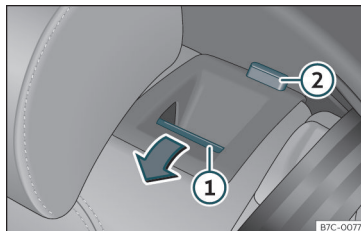

Fig. 128 On the rear seat backrest: release button ①; red mark ②.
- Push the unlock button »»» **Fig. 128** ① forwards and at the same time lift the backrest.
- The rear seat backrest is not engaged when the red marking of the button ② is visible.
The rear seat backrest is not engaged when the red marking of the button >>> Fig. 128 ② is visible.